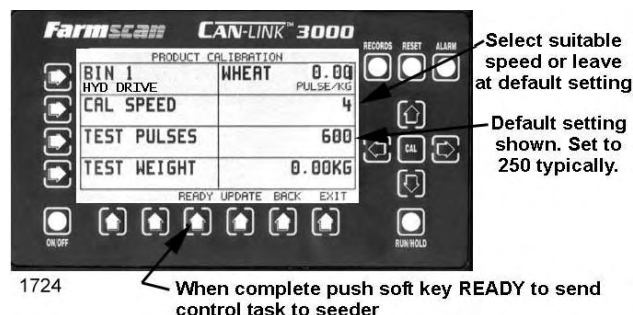

Fig.VC4 Product Calibration Screen.
7. When in the calibration screen (refer Fig.VC4) you will need to set the following:-